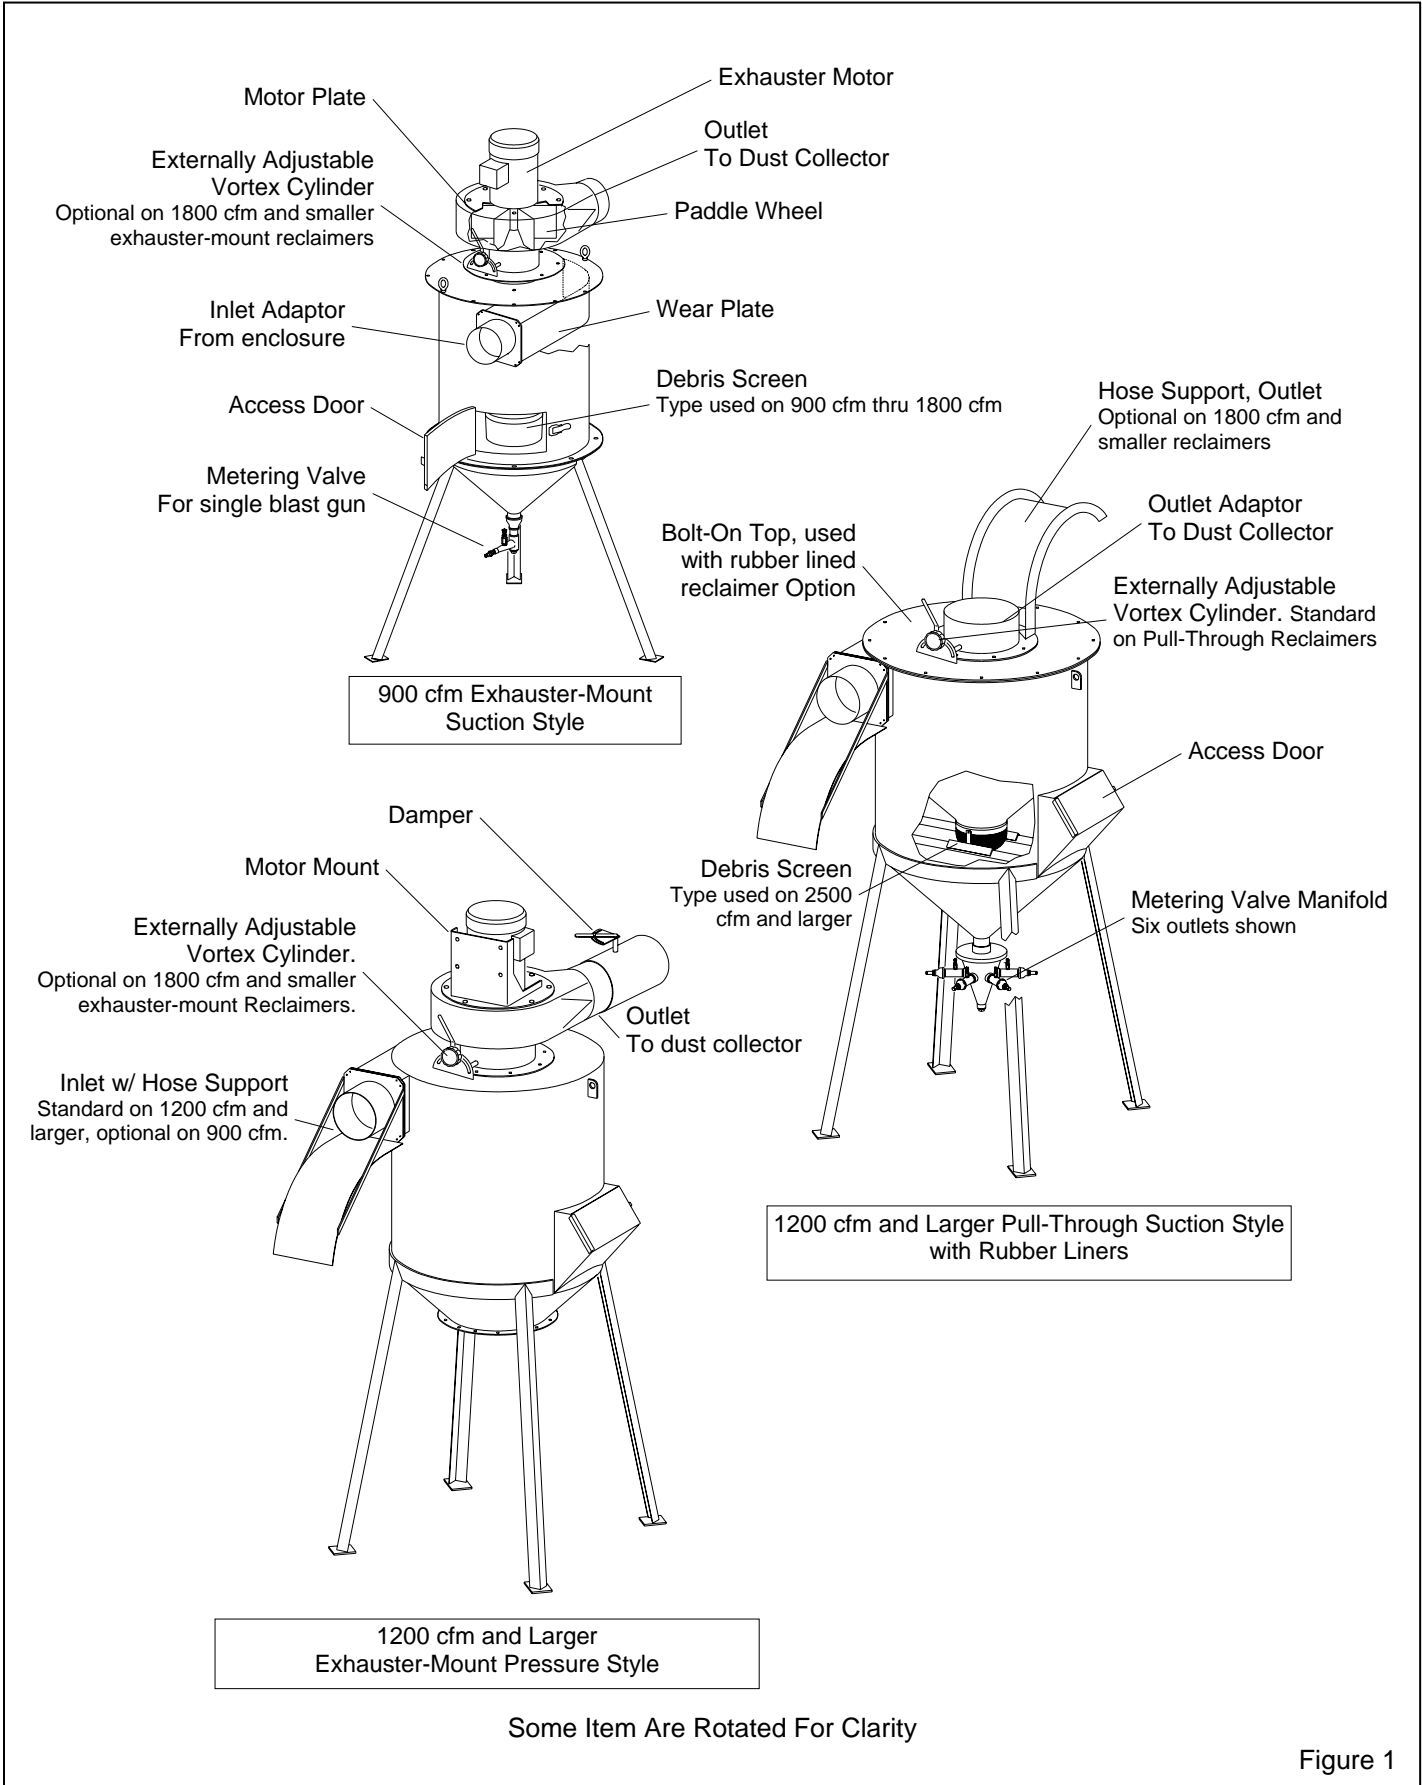

Figure 1
1.3.1 Reclaimers are divided into two primary categories: Push-thru and Pull-thru. Within those categories, the reclaimer is either a suction type or pressure type. Some of the smaller reclaimers are convertible. The operation of the reclaimer is the same for both types. Refer to Figure 1 for reclaimer type and components.
1.5.1 A replaceable wear plate protects the reclaimer inlet area from rapid wear. The wear plate is standard on all non rubber lined reclaimers. See Figure 1.
2.3.2 Connect the appropriately sized flexible conveying hose or ducting from the reclaimer outlet, to the dust collector inlet. Refer to Figure 1.